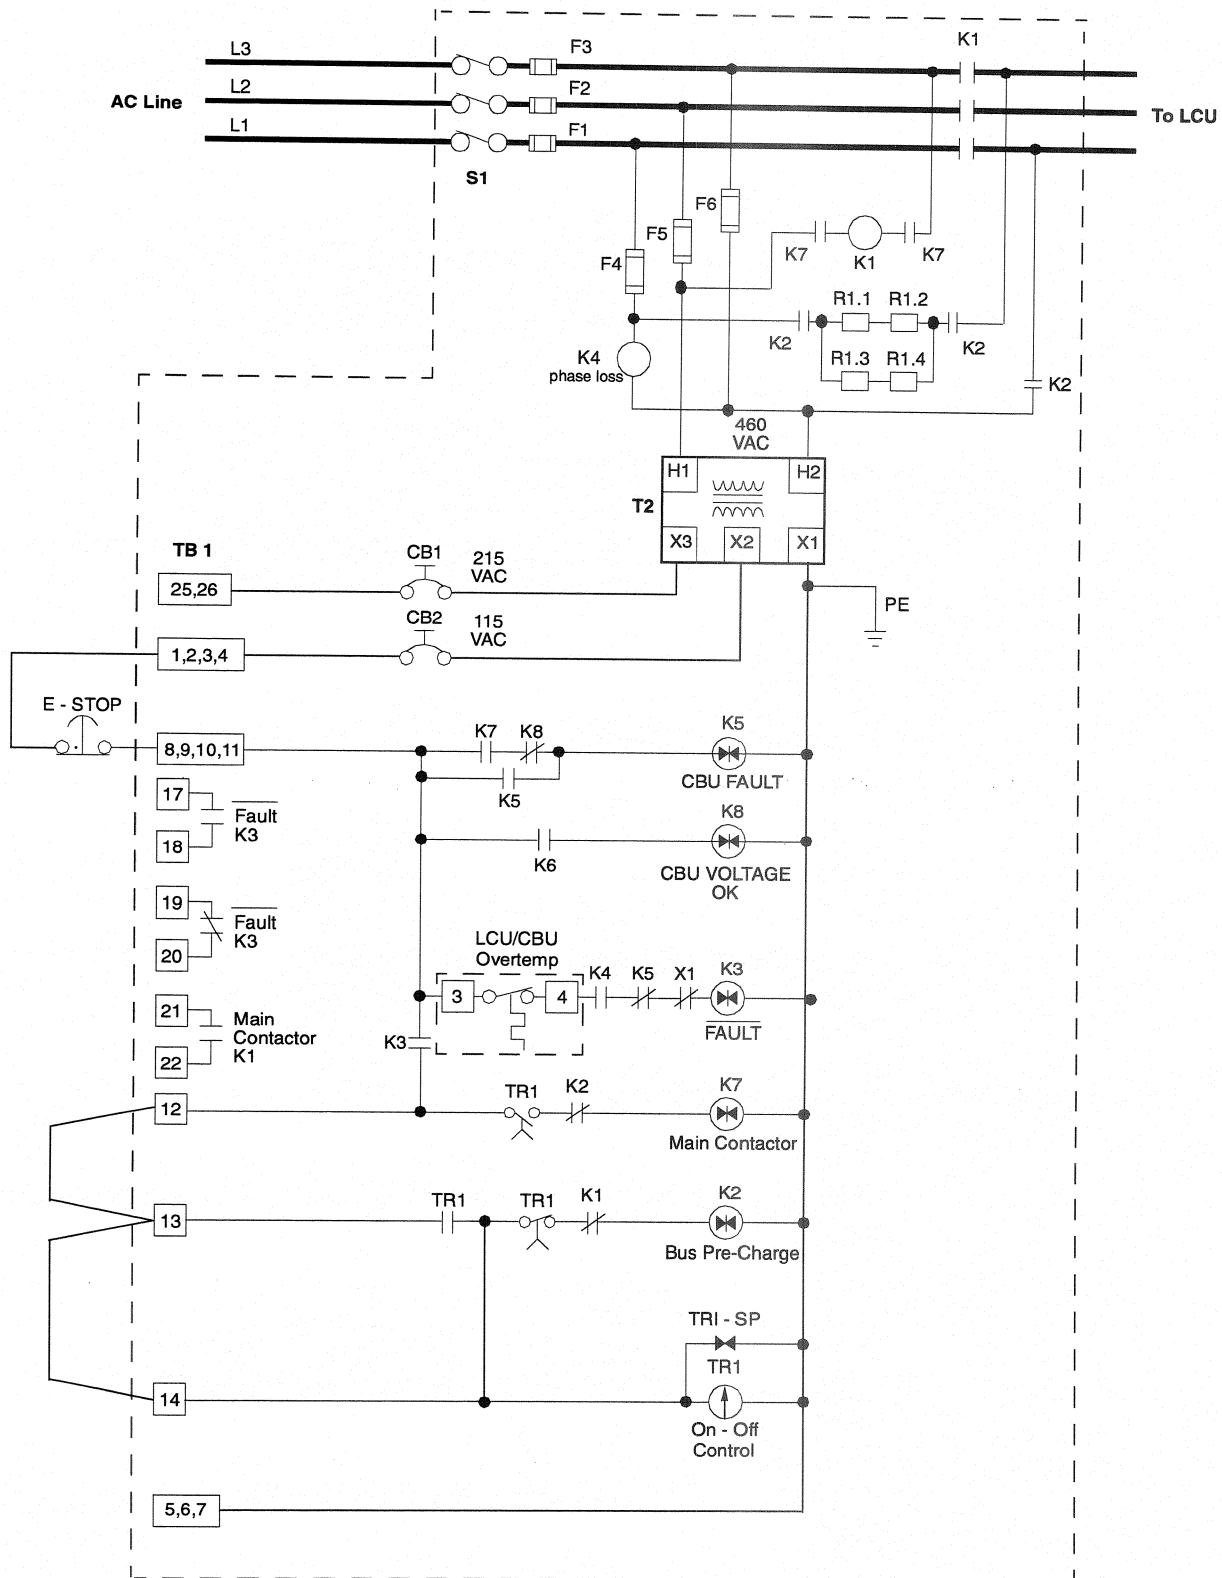

Figure 5-2 Typical Contactor Unit Logic
Initially it is recommended that the control power be applied to the drive with the DC bus at zero potential!! The main control circuits can then be verified for functionality before allowing the inverter section to operate. Remove jumper or open switch between terminals TB1-15 and TB1-16 see Figure 5-2 to disable DC bus.
- With main disconnect open, install fuses F1, F2 and F3 Figure 5-2.